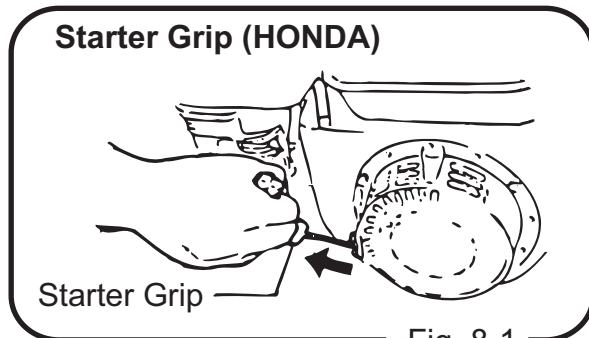

Fig. 8-1
- 4 Grip the starting knob of the recoil starter. When you pull the rope a little, you will feel some resistance. Then pull it at a stroke. Be careful not to pull the rope too strongly, or the rope may break or come off. (Fig.8-1 & 8-2)